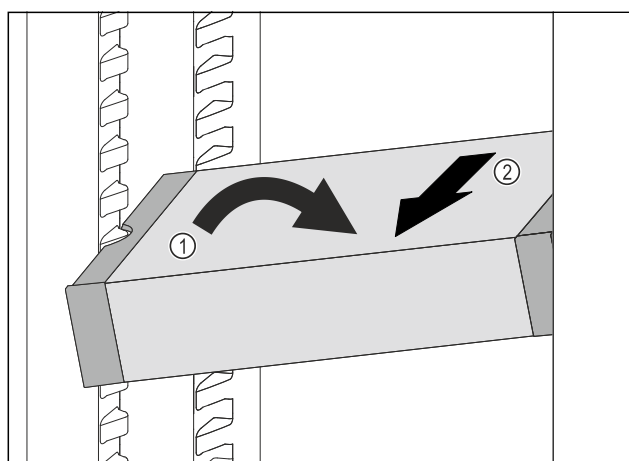

Fig. 109
- Set VarioSafe in refrigerator compartment at an angle. *Fig. 109 (1)*
- Take VarioSafe out to the front. *Fig. 109 (2)*